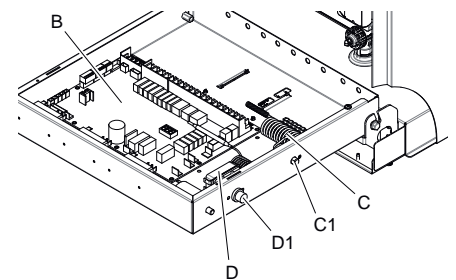

fig. 20 - internal view of the electric box
- B Electronic hydronic board (fig. 20)
- C Safety thermal cut-out for single phase electrical heater with manual reset button (part. C1 fig. 20)
- D Safety thermal cut-out for three phase electrical heater with manual reset button (part. D1 fig. 20)